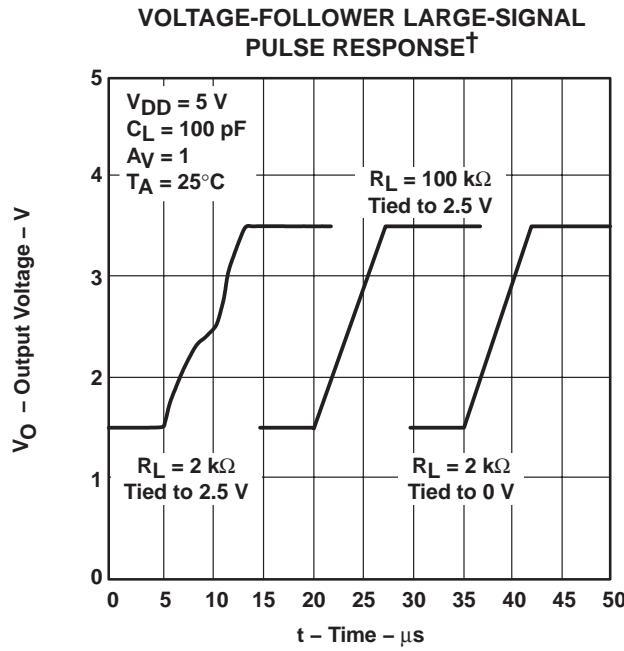

Figure 39
- Where the load is referenced. When the load is referenced to either rail, this condition does not occur. The distortion occurs only when the output signal swings through the point where the load is referenced. Figure 39 illustrates two 2-k $\Omega$  load conditions. The first load condition shows the distortion seen for a 2-k $\Omega$  load tied to 2.5 V. The third load condition in Figure 39 shows no distortion for a 2-k $\Omega$  load tied to 0 V.
- Load resistance. As the load resistance increases, the distortion seen on the output decreases. Figure 39 illustrates the difference seen on the output for a 2-k $\Omega$  load and a 100-k $\Omega$  load with both tied to 2.5 V.